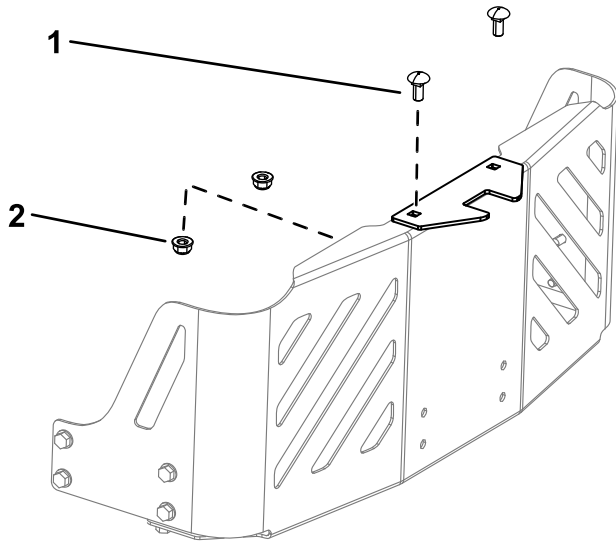

Figure 10
1. Install the stabilizer bracket to the engine guard using 2 carriage bolts (5/16 x 3/4 inch) and 2 locknuts (5/16 inch) (Figure 10).